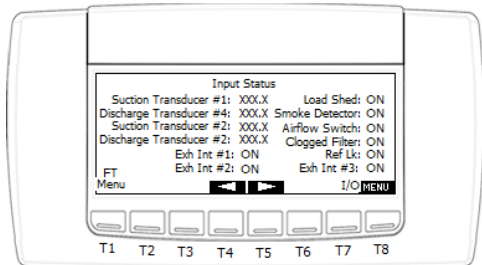

Figure 9. i-Controller Input Status Screen Page 2
**NOTE:** Visograph screens in (Figure 9 – 12) do not represent actual values. These images are only for illustration purposes.